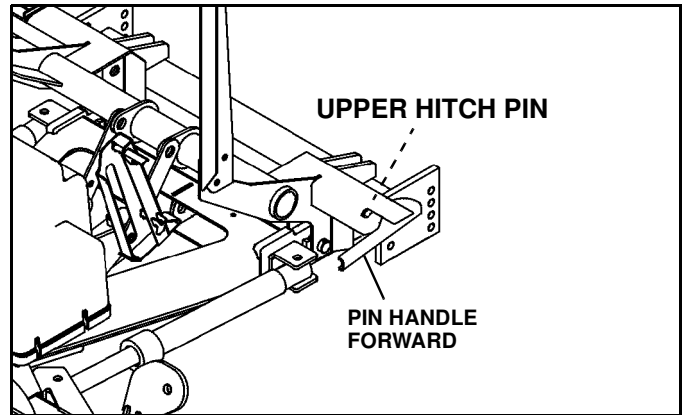

Figure 1-16
4. Put plow into float position by turning down pressure off. Rotate pin handles forward to lock upper hitch pins in place. (See Figure 1-16).